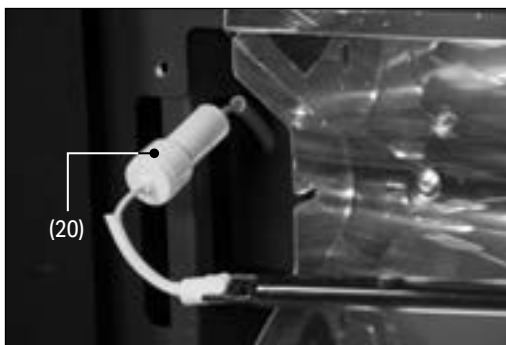

Fig. 13
3. Gently ease the element out of the reflector slots and slide the connection insulators (20) from their sockets and towards you (Fig.13).